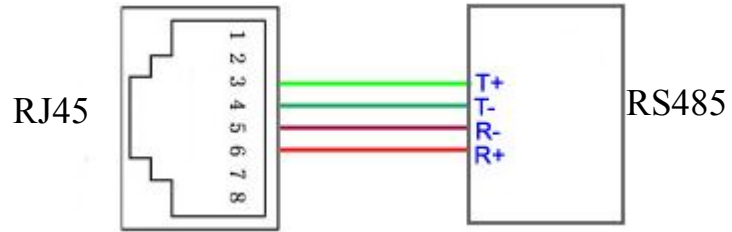

Fig.11.2
**RJ45 converting to RS485**——a nonstandard RS485 port. The user can perform the RS485 communication through the transmission line within the local area network. The connection diagram between the RJ45 and the stand RS485 is shown as Fig.11.2.